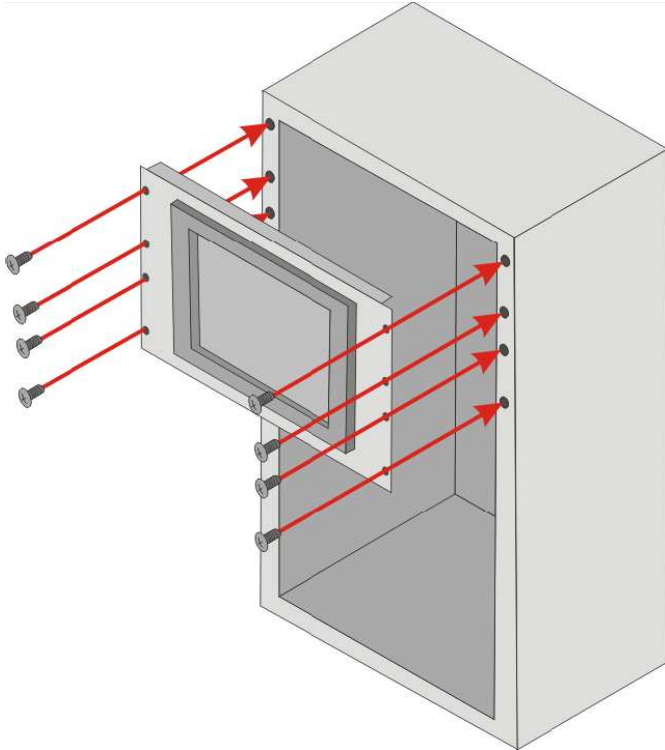

Figure 3-19: Install into a Rack/Cabinet
Step 5: Slide the IVC-17PC-P flat panel PC with the attached rack/cabinet bracket into a rack or cabinet. (See **Figure 3-19**)
Step 6: Once the IVC-17PC-P flat panel PC with the attached rack/cabinet bracket has been properly inserted into the rack or cabinet secure the front of the rack/cabinet bracket to the front of the rack or cabinet. (See **Figure 3-19**)